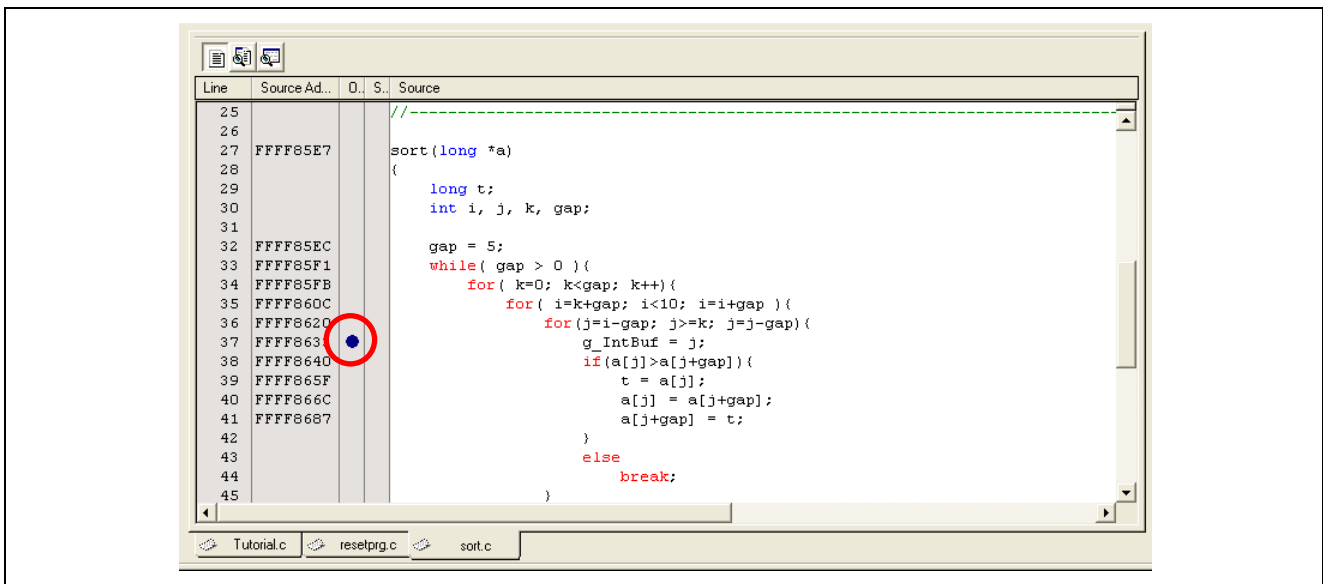

Figure 4.24 Setting a Breakpoint
- (3) As shown in Figure 4.24, set an on-chip breakpoint at line 37 in `sort.c`, where "`g_IntBuf = j;`" is written. For details of the breakpoint setting procedure, refer to section 4.10, Break Functions.